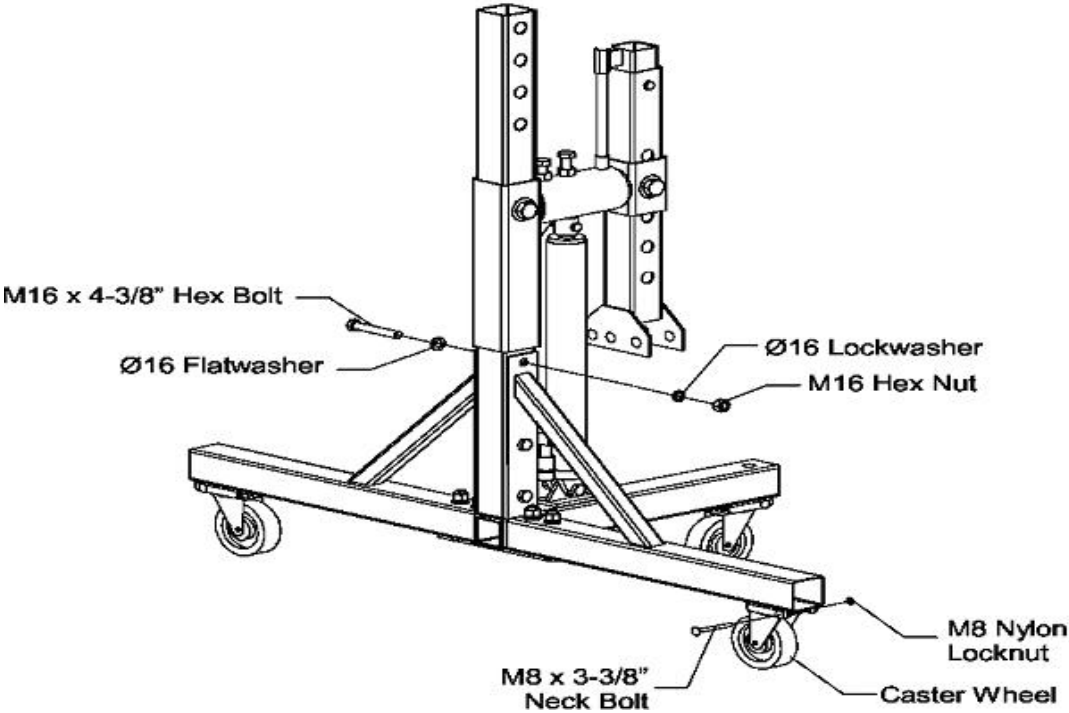

Figure 1
1. Install the 6 Caster Wheels to the bottom of each Rack Leg. **NOTE:** Do not over tighten bolts. Install Upright to legs as shown. You will install 7 bolts, flat washers, lock washers and nuts. See Figure 1 on Page 8.